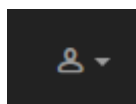

Figure 11. Partner Portal (Profile icon)
3. Hover the mouse cursor over the Profile icon in the upper right-hand corner of the web page (**Figure 11 (page 27)**). Click the **Account** option.